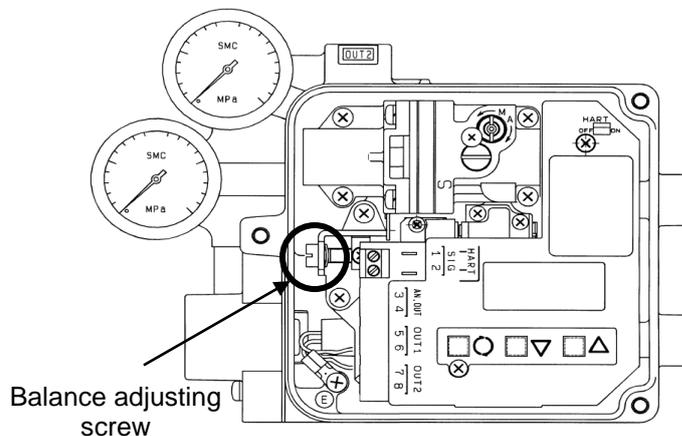

Fig. 19
*7: For the balance adjusting screw position, refer to Fig. 19. Adjustments must be made with a flat blade driver. Counterclockwise rotation decreases pressure and clockwise rotation increases pressure.